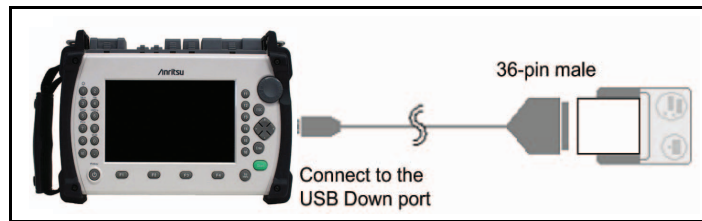

Figure 5-28: Connecting the BL-80R11 Printer
1. Connect the BL-80R11 or SD1-31 printers to the MT9083 Series as shown in Figure 5-28, and then power up the printer.